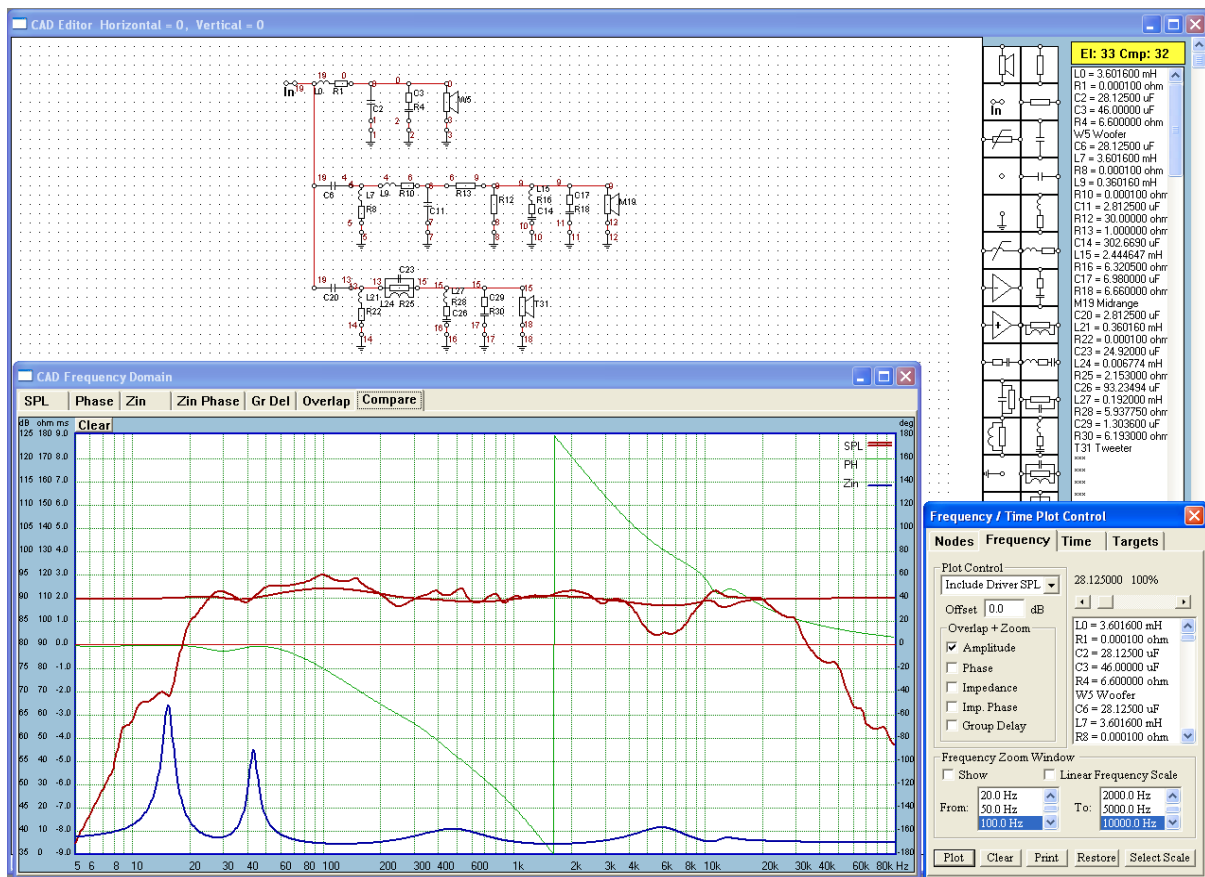

Fig 9.12 Complete 3-way crossover
At the beginning of the design process it is often acceptable to create a “first cut” design, to check if basic ideas are feasible. To facilitate this concept, we have incorporated in the Crossover module a functionality, that allows you to create medium complexity, 5-way crossover and compensation network on one screen. The process is really no different from a single channel filter and you would proceed with the schematic as described before. An example of 3-way crossover is shown on Figure 9.12. You can plot frequency response of each individual channel or a summed response of up to 5 channels. This process is controlled from the dialogue box invoked just prior plotting. Additionally, you can load up to 5 driver files and include their frequency responses and input impedances for evaluating the complete system.
2. Create complete crossover and compensation network on one screen using CAD techniques described before. Your schematic should include loudspeaker symbols. We suggest, you save the schematic now – see Fig 9.12 or 9.13.
3. Assign driver type to each loudspeaker symbol. To accomplish this, double-click LEFT mouse button on each loudspeaker symbol. A selection box will be opened for you to choose on of the 5 available driver types. You can now select (enter a number 1 for woofer,5 for super tweeter) which driver is assigned to this symbol. Repeat the above for all drivers. This process assigns driver's input impedance to this particular schematic element (loudspeaker symbol) – see Fig 9.12 or 9.13.
4. Plotting control dialogue box (Fig 9.14) also contains additional fields for assigning drivers to nodes. Now, you need to **assign driver's frequency response to a particular node and this is accomplished by selecting driver's name from the associated list box.** An example of this process is shown Figure 9.12, where a 3-way crossover is developed.
Figure 9.15 shows frequency response of each individual driver + filter and also total system frequency response of the system on Figure 9.12.